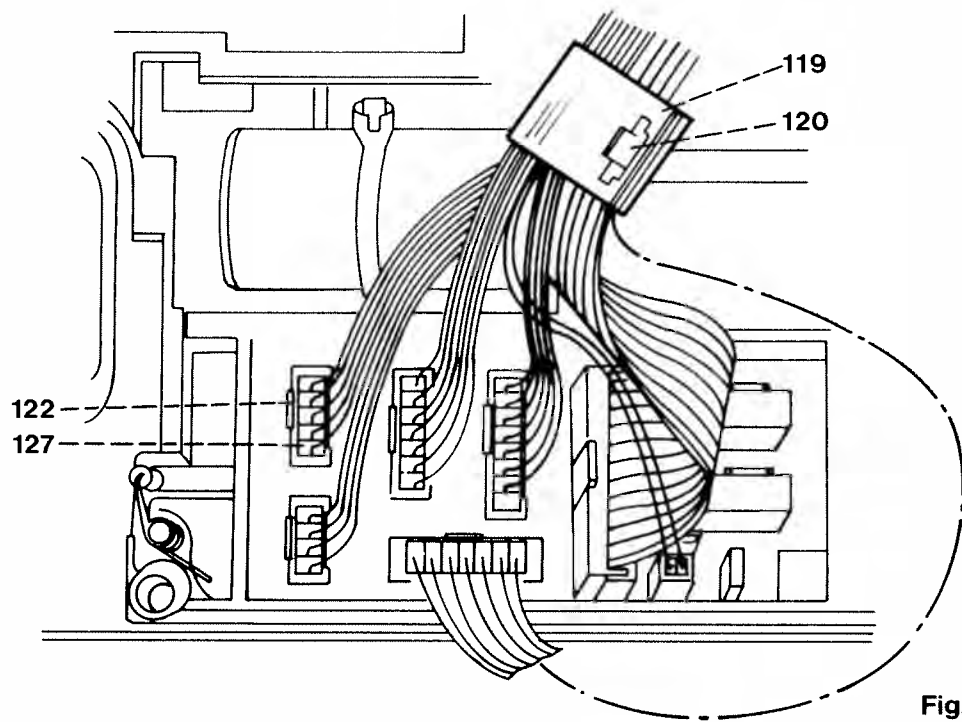

Fig. 31
- Lift catch 122 by 1 to 2 mm (Fig. 31).
- Open both cable clips 119 at catch 120 and remove the five-wire cable from the cable guides (see Figs. 31 and 31a).
- Fit five-connection plug 127 in the five-pin base (Fig. 31).